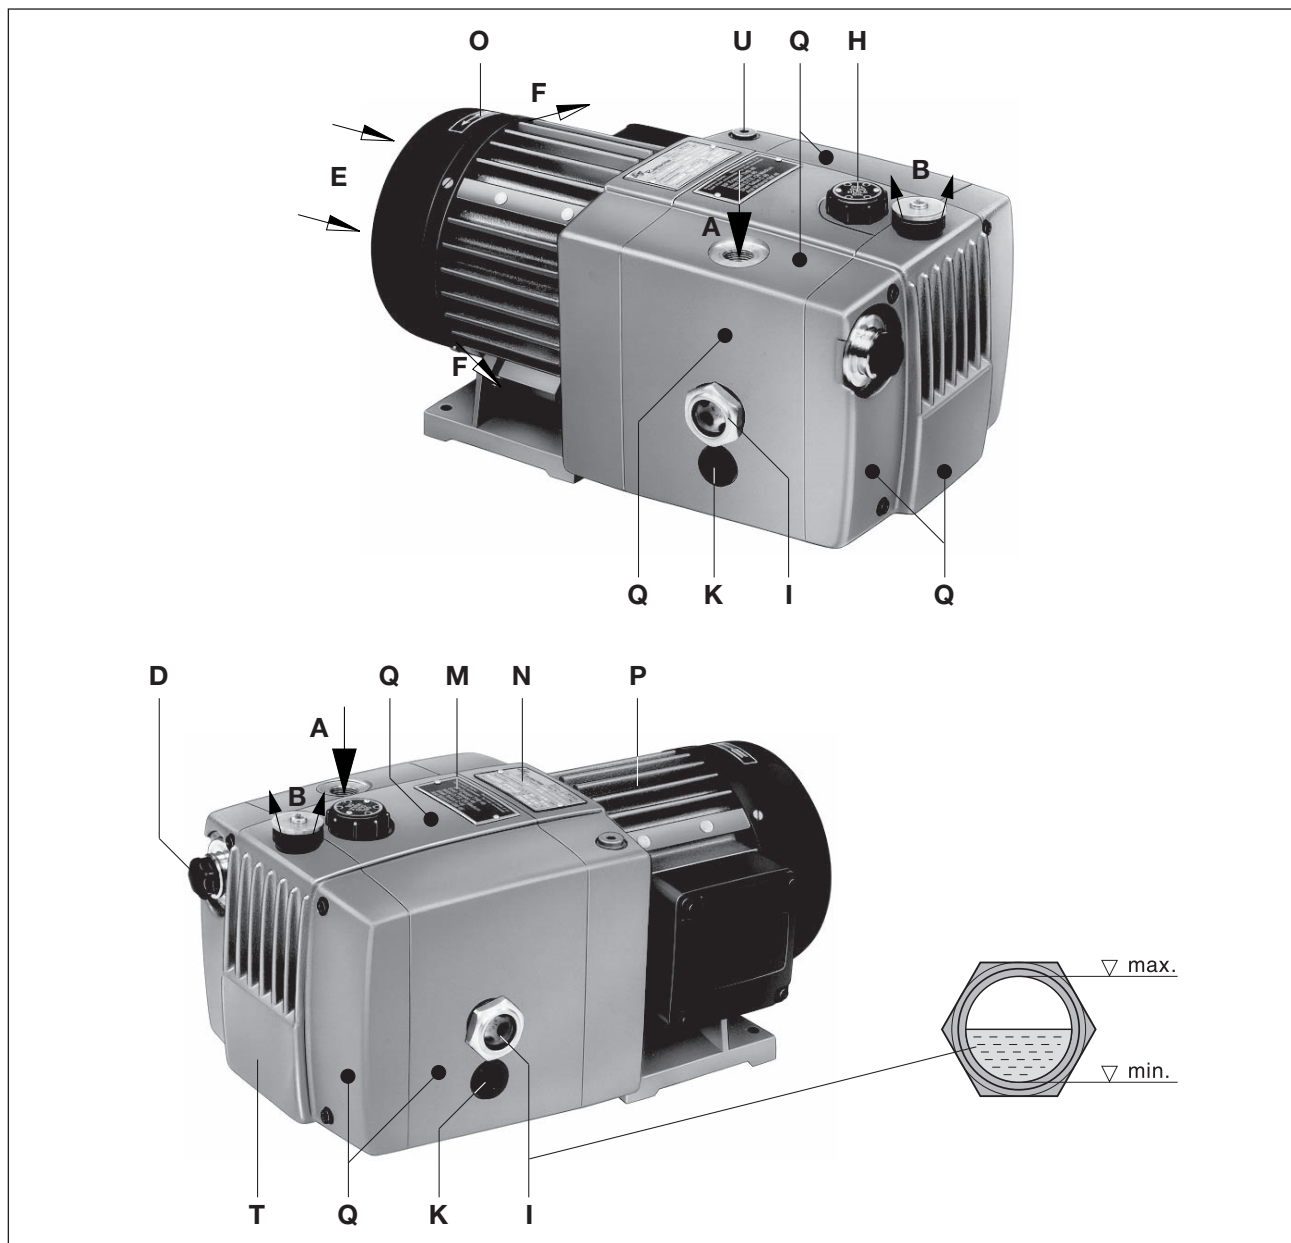

Fig. 1 Vacuum pump V-VGA / V-VGC
The oil filling point (Fig. 1/H), oil sight glass (Fig. 1/I) and oil outlet (Fig. 1/K) must be easily accessible.
The cooling air inlets (Fig. 1/E) and the cooling air outlets (Fig. 1/F) must be at least 15 cm away from adjacent walls. Cooling air coming out must not be sucked in again. For maintenance work there must be 30 cm in front of the filter (Fig. 1/D) and the oil reservoir cover (Fig. 1/T).
The air vent (Fig. 1/B) must not be closed or restricted.
- a) The vacuum connection at (Fig. 1/A).
- b) The air handled can be exhausted into the atmosphere through the silencer (Fig. 1/B).
- a) Fill the lubricating oil (for suitable types see the „Maintenance“ section) via the oil filling point (Fig. 1/H) up to the upper edge of the sight glass (Fig. 1/I).
- a) The electrical motor data can be found on the data plate (Fig. 1/N). The motors comply with DIN EN 60034 and are in protection class IP55 and insulation class F. The appropriate connection diagram is located in the motor's terminal box (not for the plug connection version). The motor data must be compared with the data of the existing mains network (current type, voltage, network frequency, permitted current value)..
When the machine is at operating temperature the surface temperatures on the components (Fig. 1/ Q) may go above 70°C. You must avoid touching the hot surfaces (marked with warning plates)
- ▷ The drive shaft direction of rotation is shown by the rotation direction arrow (Fig. 1/O) on the motor flange.